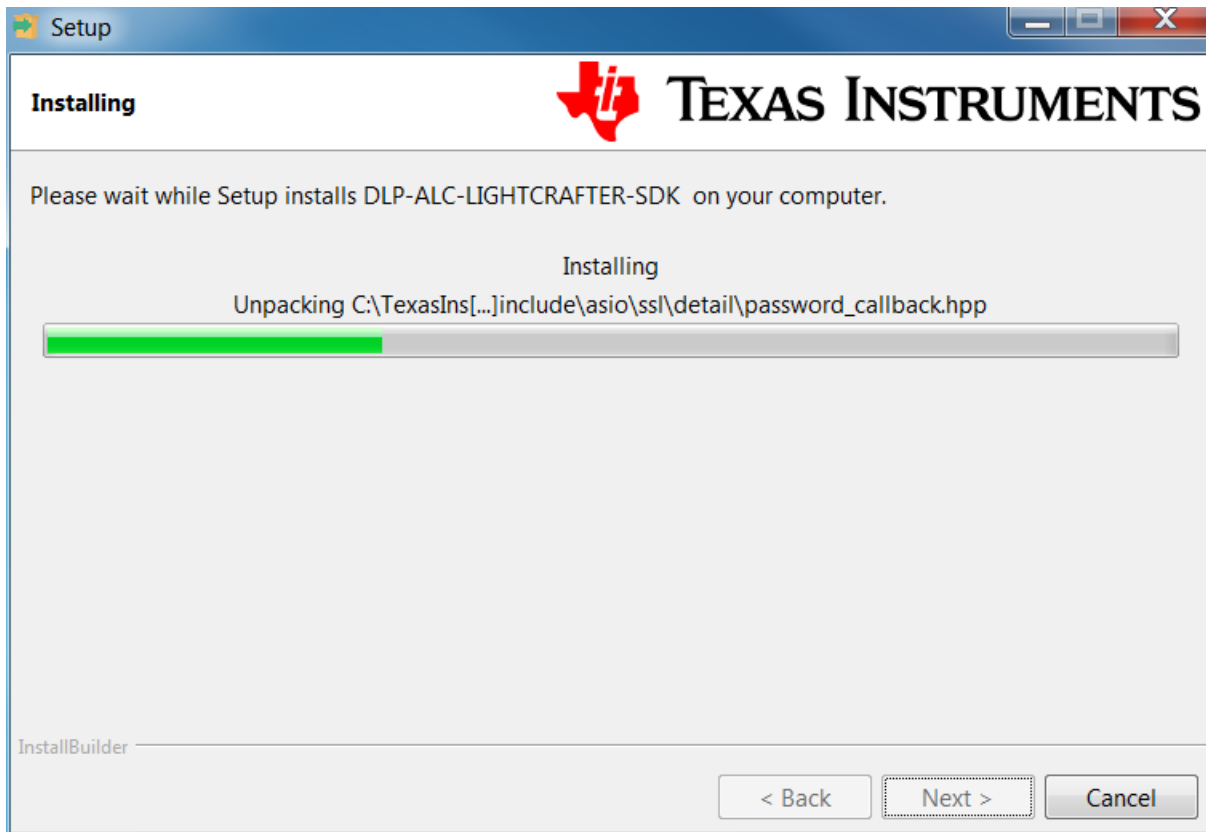

Figure 43. DLP ALC SDK Installer Progress Bar
7. The installer will be copying the files and will display a progress bar as in Figure 43.